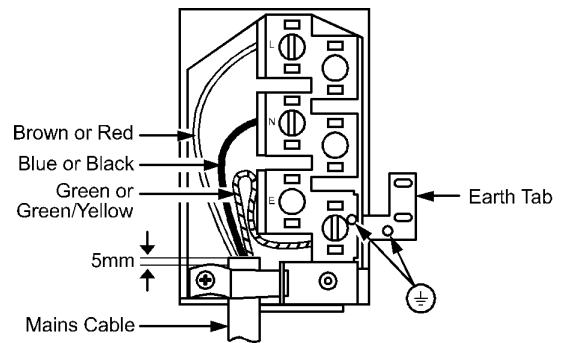

Fig. 7
- Make connection as shown in Fig. 7 by proceeding as follows:-
- Clamp the mains cable securely ensuring 5mm of the outer insulation is inside the terminal block and that the wires are not taut but not so slack as to cause any fouling. See Fig. 7.